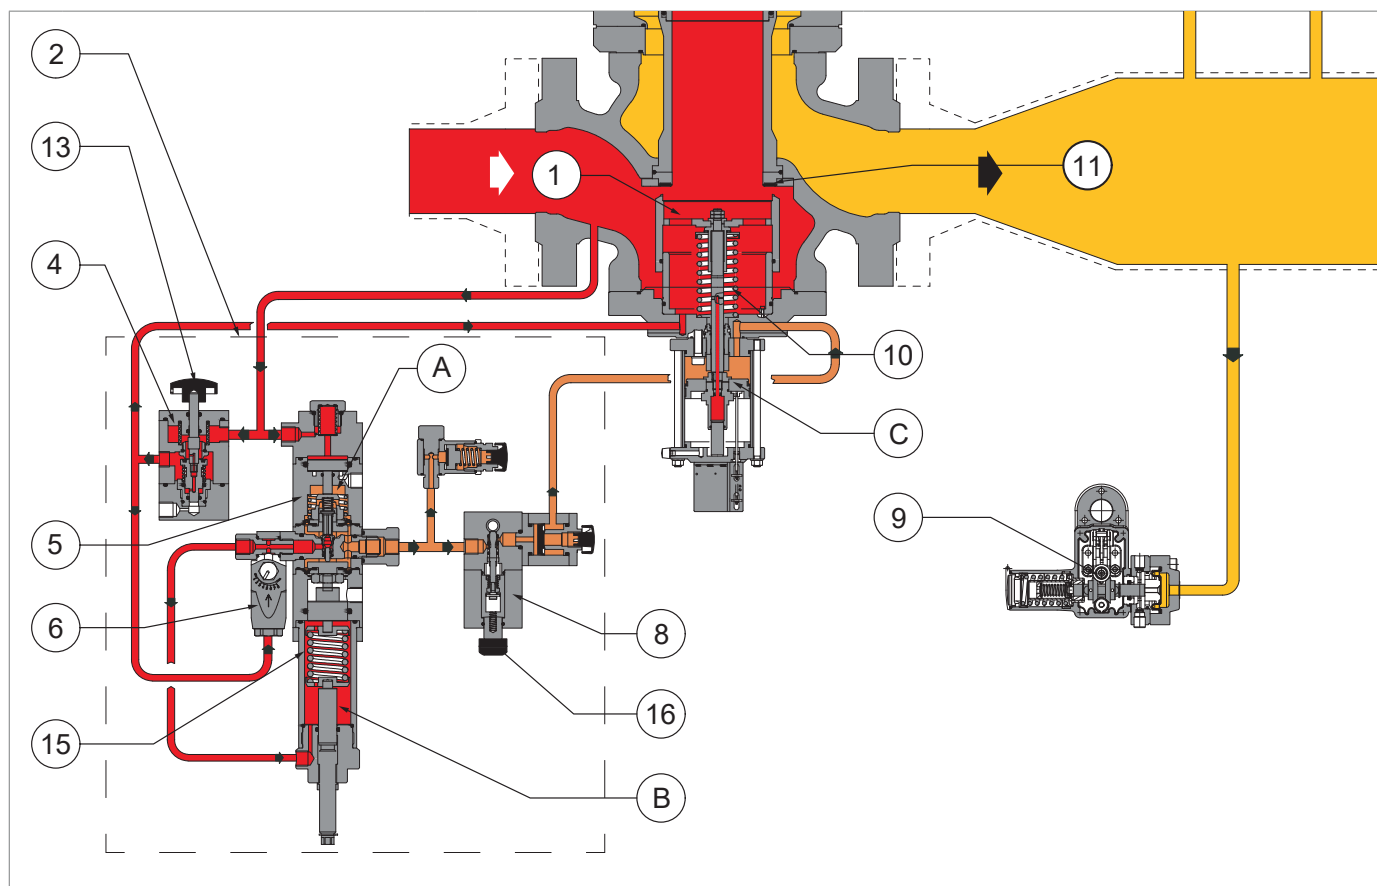

Fig. 4.13. REVAL 182 with HB/97 incorporated slam-shut valve
The HB/97 built-in slam-shut valve consists of (see Fig. 4.13):
The LINE OFF 2.0 device (2) consists of (see fig. 4.13):